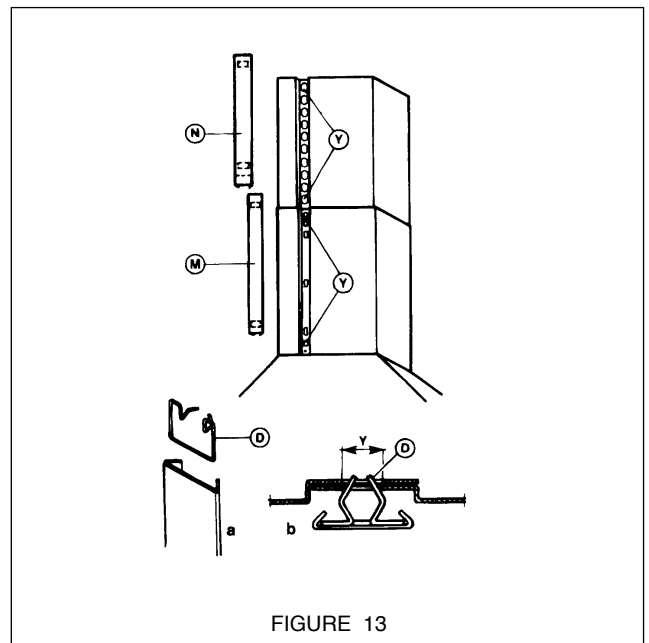

FIGURE 13
9. Trim strips are supplied to cover the seam in the chimney cover. Each strip attaches to the chimney cover as illustrated in FIGURE 13. The strips (M and N) are held in place by clips (D) which fit into the holes (Y) in the chimney. It may be necessary to cut the upper trim strips to the proper length before installing. Be careful not to bend the trim strips when cutting.